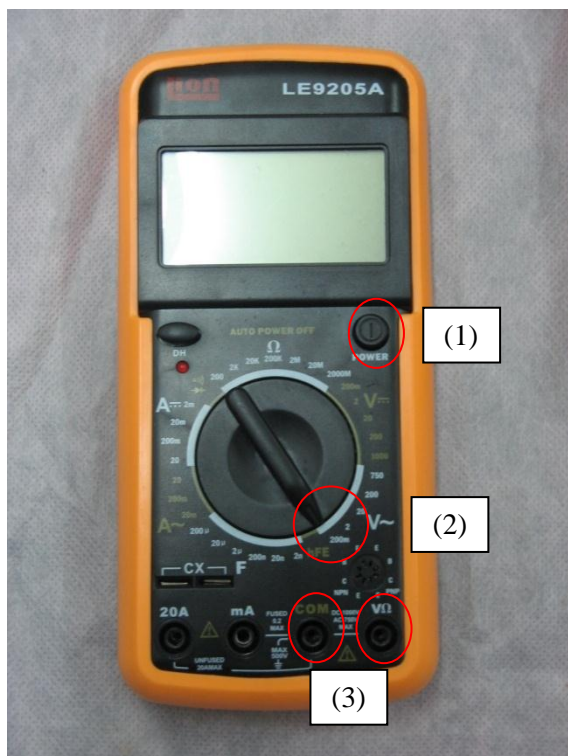

Figure 3: The voltmeter.
- (1) An AC power supply operating on 50Hz. The power supply has two pairs of terminals. The two smaller sockets (1a) supply a voltage of about 24V; use these only for running current through the solenoid. The two larger sockets (1b) supply a voltage of about 0.7V. The power supply is turned on only when the green button (1c) is pressed – this is in order to prevent overheating the system by accidentally leaving the current on, as further explained below. The red light bulb indicates when the power supply is on.
- (2) A cylindrically symmetric solenoid filled with iron rods. The solenoid is connected to the 24V terminals of the power supply. The solenoid can be raised and lowered using a long screw. The screw's vertical step is $h = 1.41mm$.
- (6-7) Two multimeters. They will be used as a voltmeter and an ammeter. The AC voltmeter's sensitivity is 0.1mV. The ammeter can measure currents of up to 20A (also in AC mode). **Note:** in AC mode, the multimeters display the RMS (root-mean-square) of the measured quantity, i.e. the amplitude divided by $\sqrt{2}$. See Figures 3 and 4 for detailed instructions.